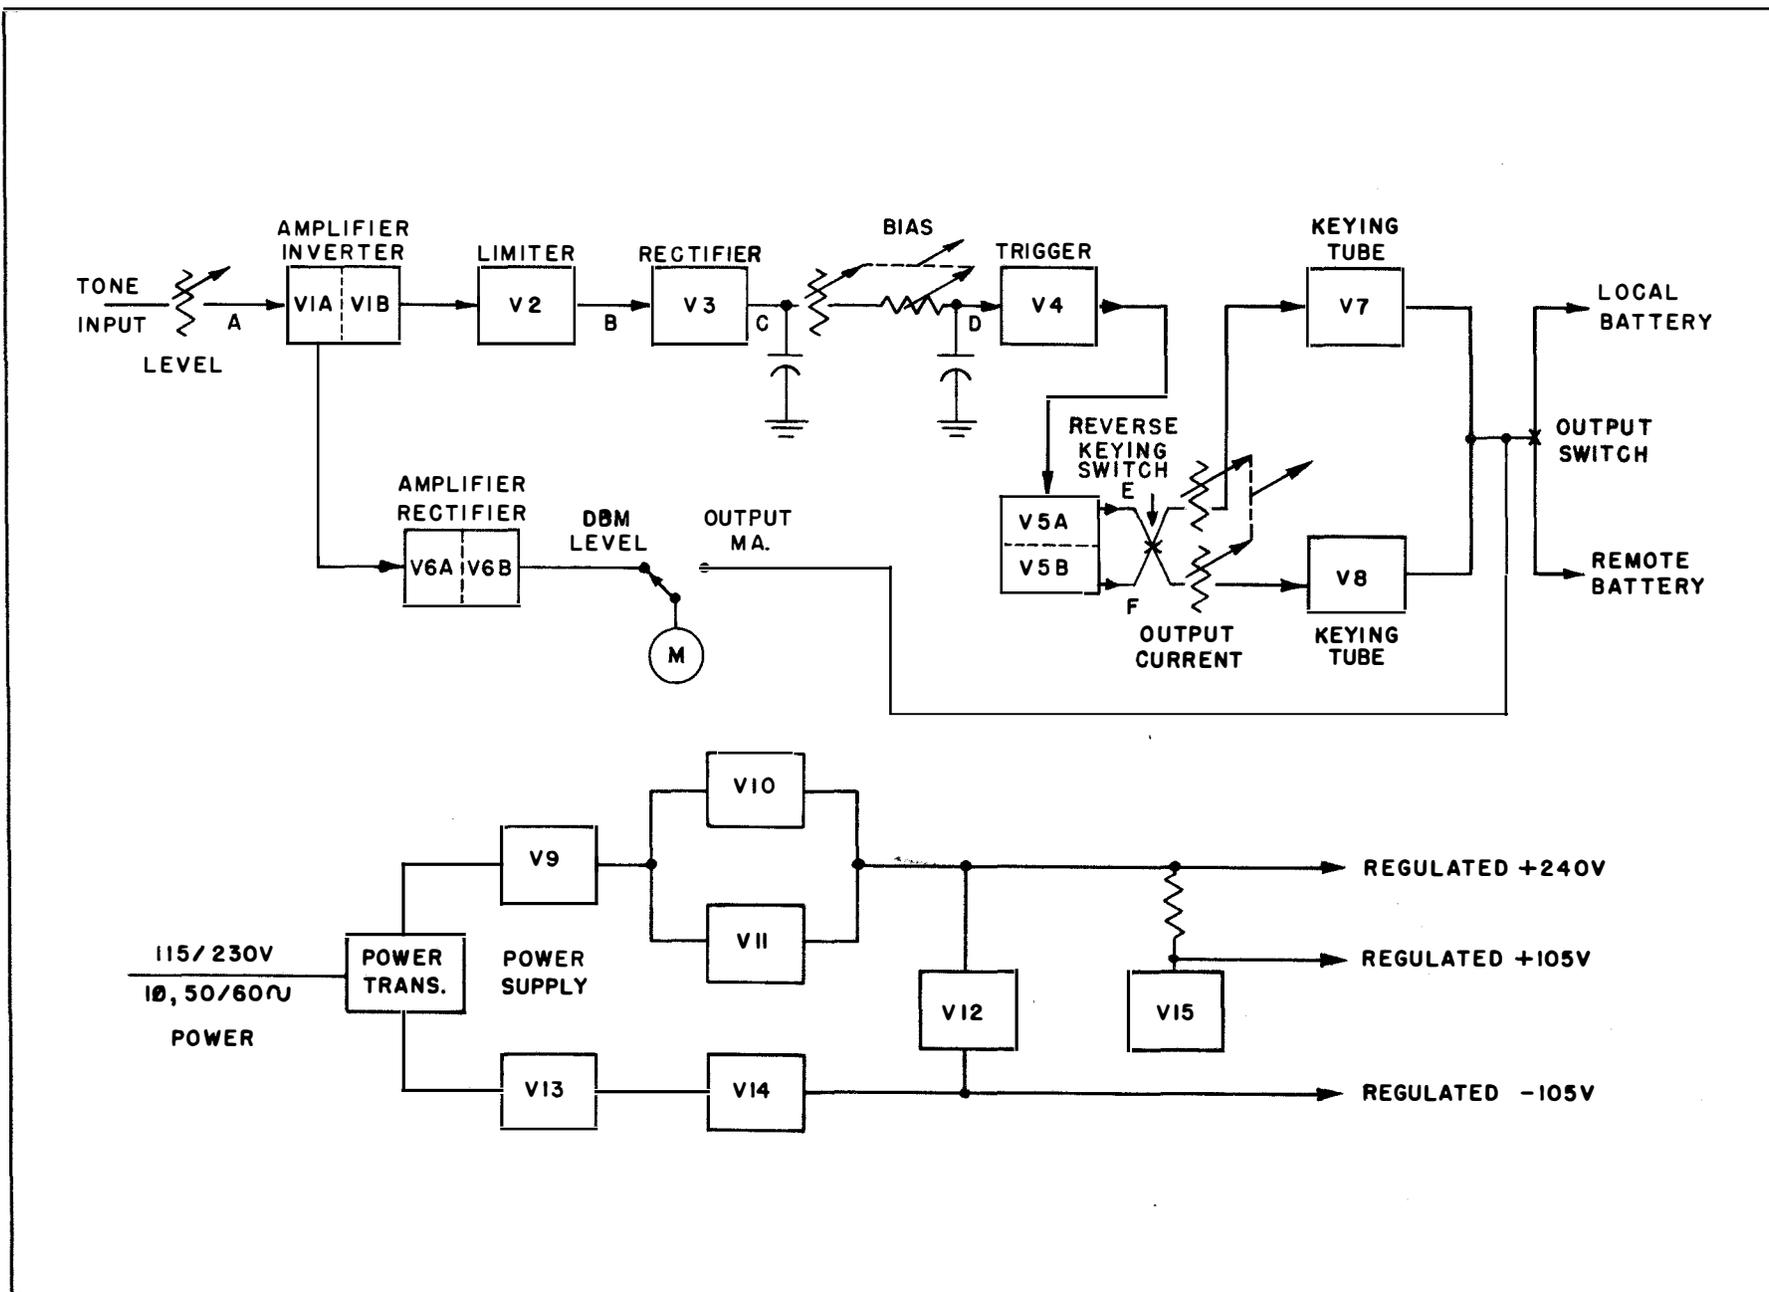
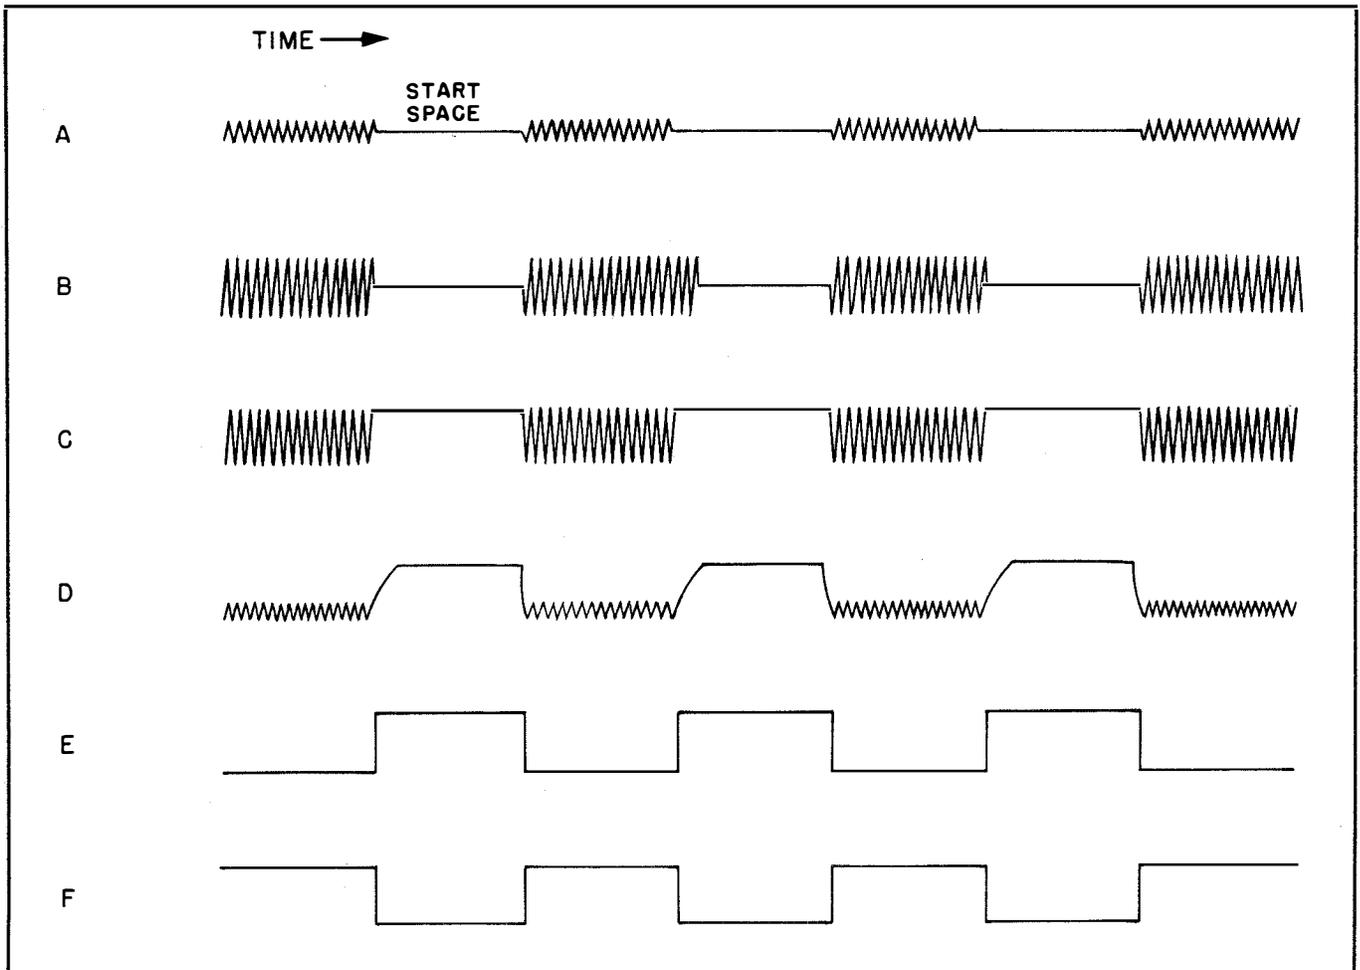

Figure 2-1. Receiver, Carrier Telegraph R-466/UC, Block Diagram
Figure 2-2. Waveforms
a. Figure 2-1 illustrates a block diagram of the Receiver showing routing of signal from input to output. Figure 2-2 illustrates waveforms of the character "Y" at pertinent points of the circuit on a time base. The letters opposite each line in Figure 2-2 refer to the waveforms seen at the lettered points in Figure 2-1. Reference will be made during the following discussion to tubes, points, or lines designated by letters or numbers in Figures 2-1 and 2-2. Reader's reference to these Figures should be made when necessary without further discussion.
(1) Keyed tone input to the Receiver is connected through the LEVEL control to the triode amplifier tube V1A. (See Line A). The LEVEL control is used in conjunction with meter M1 to set the signal level for optimum operation of the Receiver. Output from tube V1A is coupled to triode tube V1B which provides push-pull output to drive limiter-amplifier tube V2, a dual triode. This tube is automatically biased by the signal level so that output to full wave rectifier tube V3 is held relatively constant for input level variations of plus or minus 7.5 DBM from normal. Tube V3 converts the keyed tone signal to a keyed DC signal having ripple. (See line C).